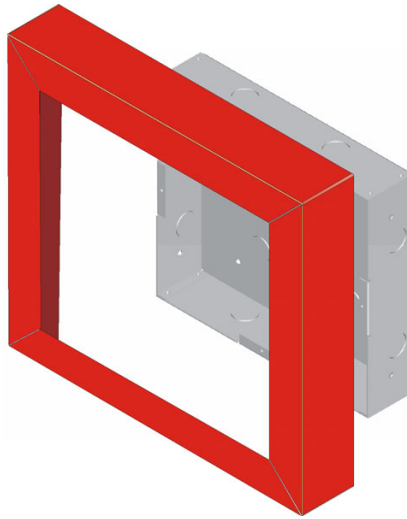

Figure 4-15 Installing Trim Ring
4. Place the trim ring over the back box as shown in Figure 4-15.